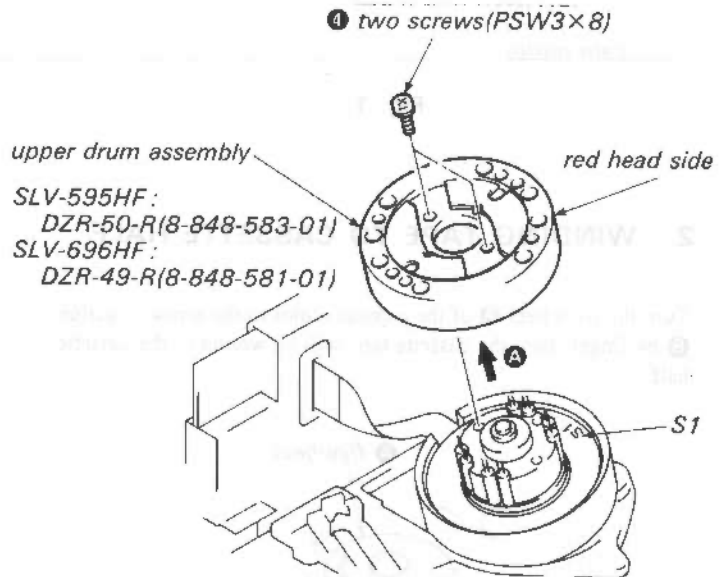

Fig. 5.
- 4) Remove two screws ④ (PSW3×8) and take out the rotary upper drum in the arrow direction A. (See Fig. 5.)
- 2) Mount the rotary upper drum by aligning red head side with marked S1 of rotary transformer board(lower drum) so that the screw holes of both upper and lower drums match. (See Fig.5.)
- 4) Tighten two screws ④ (PSW3×8). (See Fig. 5.)